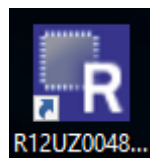

Figure 4. Desktop Icon
**Note:** You can launch the software by clicking the Renesas DAQ shortcut (created in the previous step) on the desktop. Figure 4 shows the desktop icon.